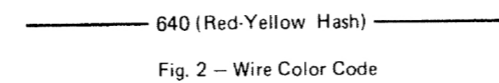

Fig. 2 - Wire Color Code
- Wire color code is shown in Figure 2. Wire color codes (by color) are listed on page 5.